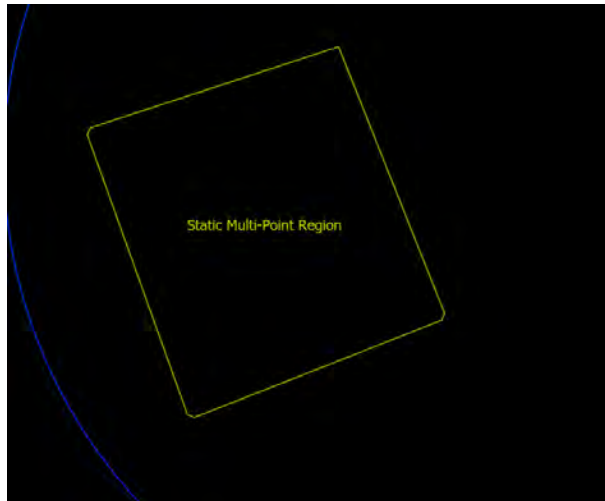
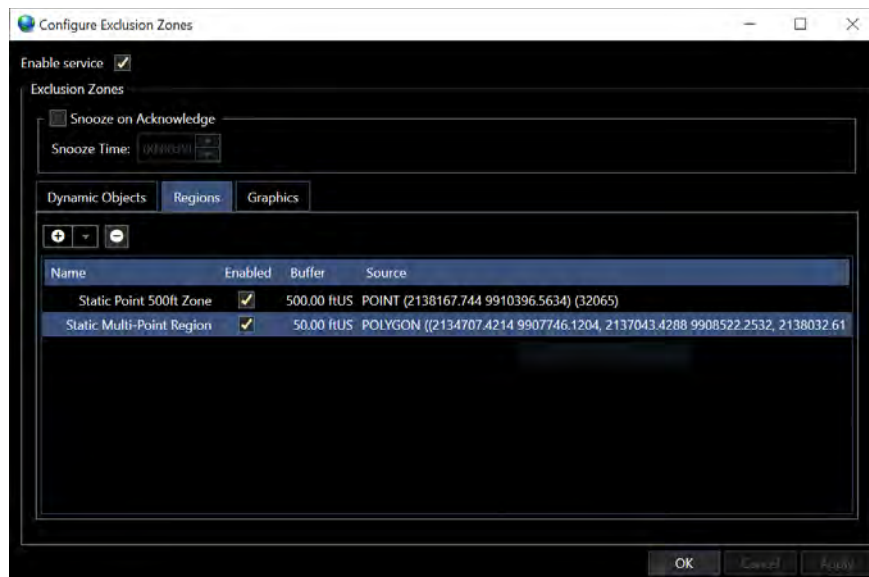

FIGURE 19-14 STATIC MULTI-POINT REGION – MAP VIEW
FIGURE 19-15 STATIC MULTI-POINT ADDED – CONFIGURATION WINDOW
4. The shape will then appear on the map view (see Figure 19-14) and will be added to the regions list in the exclusion zone configuration window (see Figure 19-15)